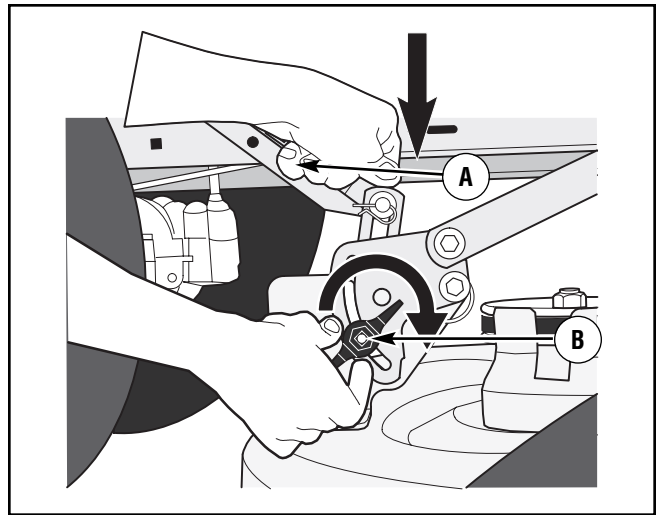

Figure 40: Loosening adjuster knobs
5. Loosen the left and right **adjuster knobs** (Figure 40). Push down on each side of the mower deck. Make sure both sides of the mower deck are setting on a flat surface. Also, make sure the lift links are loose and can easily move up or down.
6. Push down on the **lift links** and tighten the left and right **adjuster knobs** (Figure 40). Make sure the **adjuster knobs** are tight. If necessary, use a wrench to tighten the **adjuster knobs**. For plastic **adjuster knobs**, tighten to a torque of 7 foot pounds (9,5 Nm). For metal **adjuster knobs**, tighten to a torque of 10 foot pounds (13,5 Nm).